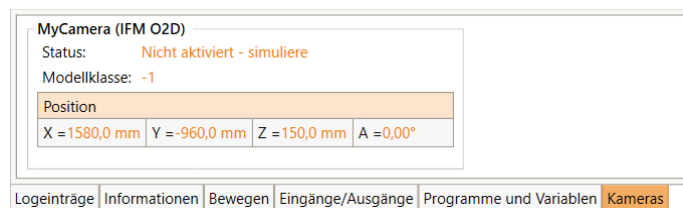

Figure 33: Camera status area
- CRI interface: The image is transmitted via the Ethernet interface to iRC and can be observed there in the camera status area (see fig. 33).